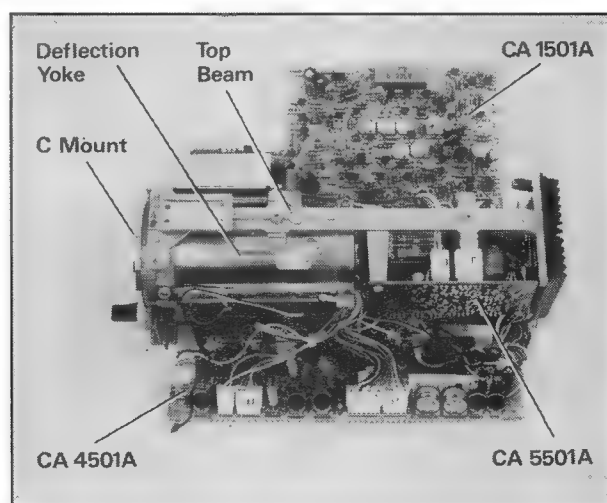
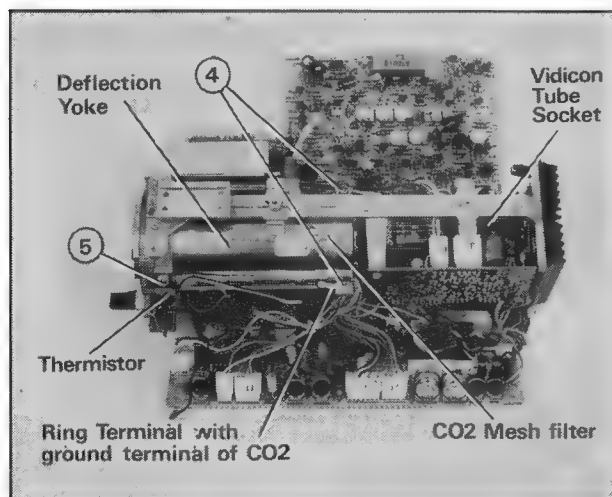

Fig 3.12 PCBs Hinged Down to Show Deflection Yoke
Fig 3.16
The vidicon is located within the deflection yoke (DY), illustrated in Figure 3.12.
- (1) Hinge clear PCBs CA 1501A and CA 4501A, and remove CA 5501A (Fig 3.12)
The deflection yoke is shown in Figure 3.12. To remove the DY
- (2) Remove the four screws (1), (2) and (3), shown in Figure 3.12, in order to remove the top beam
- (3) Remove the vidicon tube socket as described in Section 3.1.1.3
- (4) Remove the two screws (4) from the DY band and the single screw (5) from the DY, as shown in Figure 3.16
- (1) Prior to assembling the DY or vidicon, ensure that the mesh-filter capacitor shown in Figure 3.16 is securely bonded to the body. Inadequate bonding may produce noise due to mechanical vibration.
- (2) The earthing wire (ring terminal wire) for the mesh-filter capacitor is secured by either of the two screws (4) shown in Figure 3.16. Failure to adequately secure the earthing wire may cause oscillation, resulting in unclear pictures.